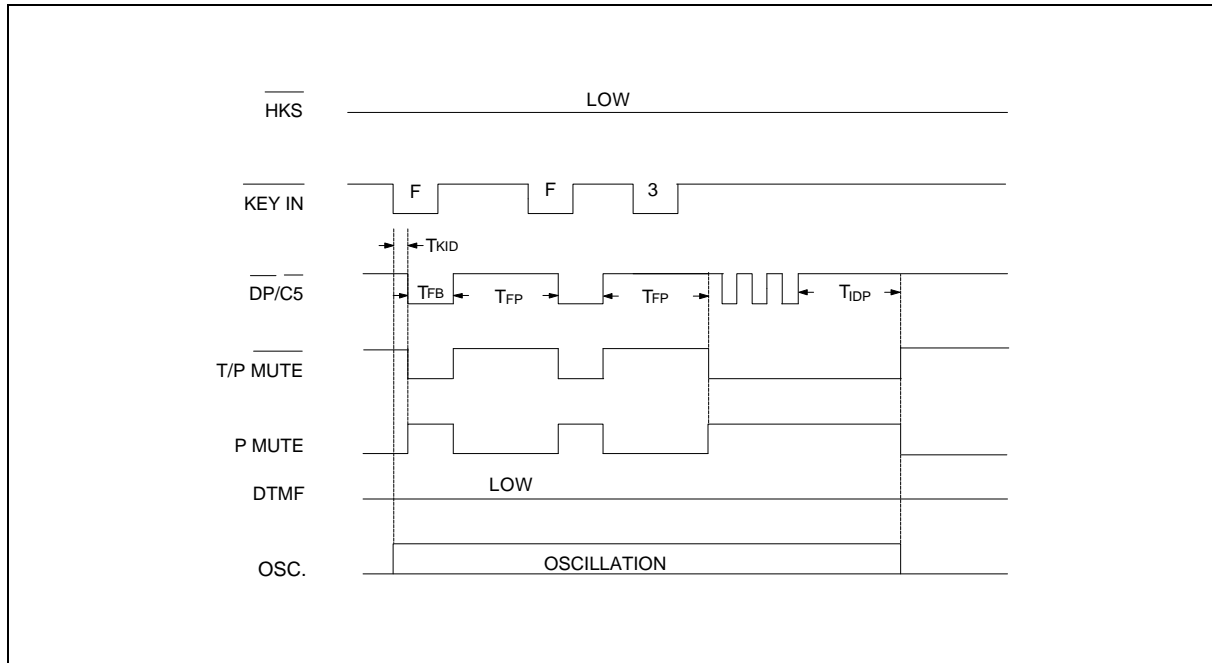

Figure 5. Flash Operation Timing Diagram
5. The flash pause time is 800 mS, so there is a pause of 800 mS between the flash and the next digit dialed (see Figure 5).
7. The flash function timing diagram is shown in Figure 5.